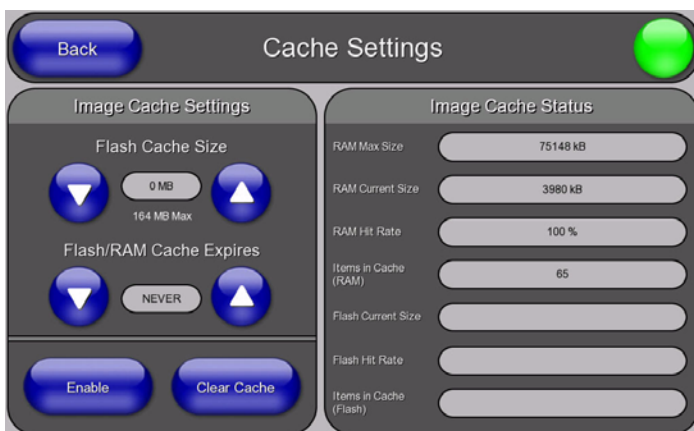

FIG. 72 Protected Setup (Other Settings) - Cache Page
- **Cache** - Press to access the *Cache Page* (FIG. 72)
Select **Cache** from the *Other Settings* slider to access the *Cache Page* (FIG. 72):